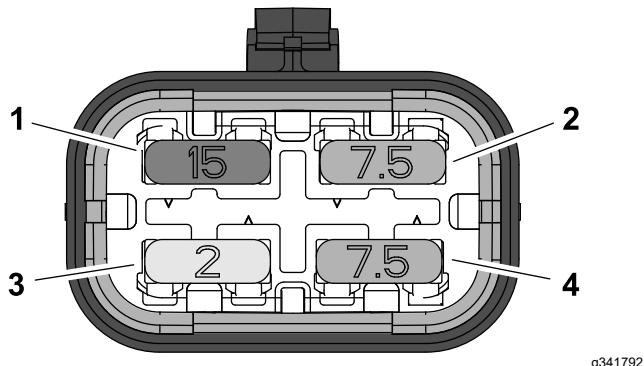

Figure 43
3. Insert a new fuse into the fuse-block slot (Figure 43).